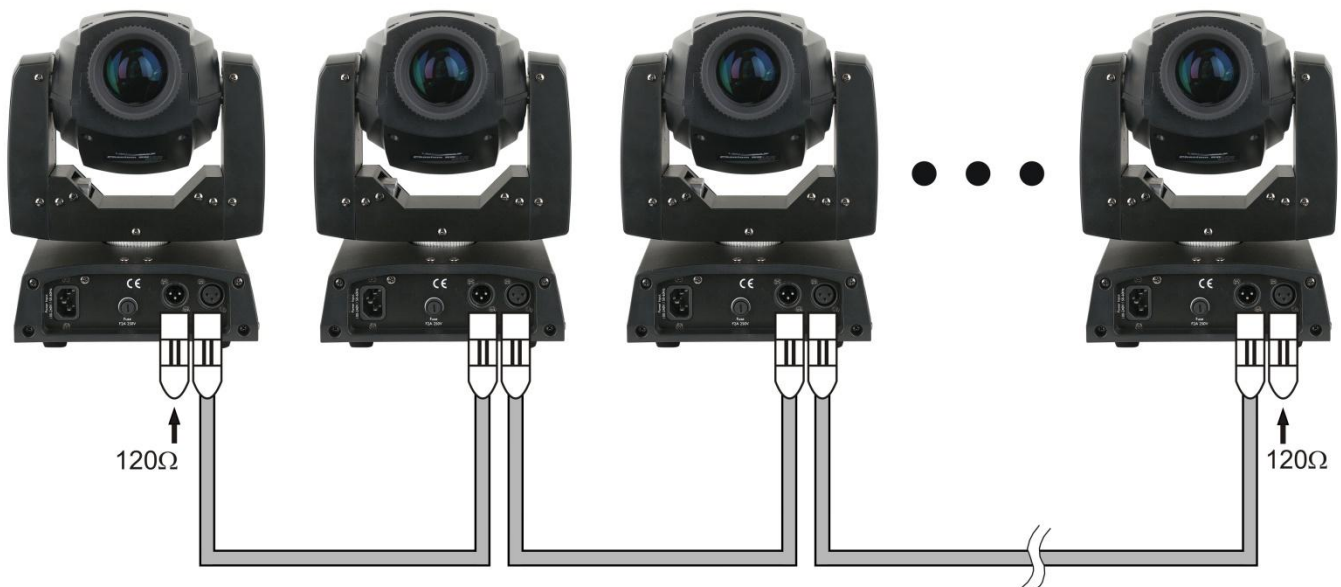

Fig. 3
3. Link the units as shown in (Fig. 3). Connect a DMX signal cable from the first unit's DMX "out" socket to the second unit's "in" socket. Repeat this process to link the second, third, and fourth units. You can use the same functions on the master device as described on page 15 (Built-in Programs, or Music control). This means on the master device you can set your desired operation Mode and all slave devices will react the same as the master device.